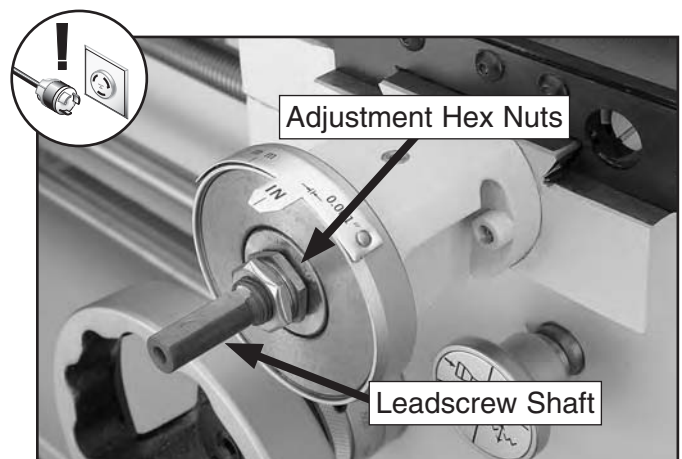

Figure 124. Leadscrew shaft and hex nuts.
3. To prevent damage to the end of the leadscrew, wrap a shop rag or a piece of leather around it, then firmly clamp the locking pliers against the flat of the shaft (see **Figure 124**) so that you can loosen the hex nuts in the next step.